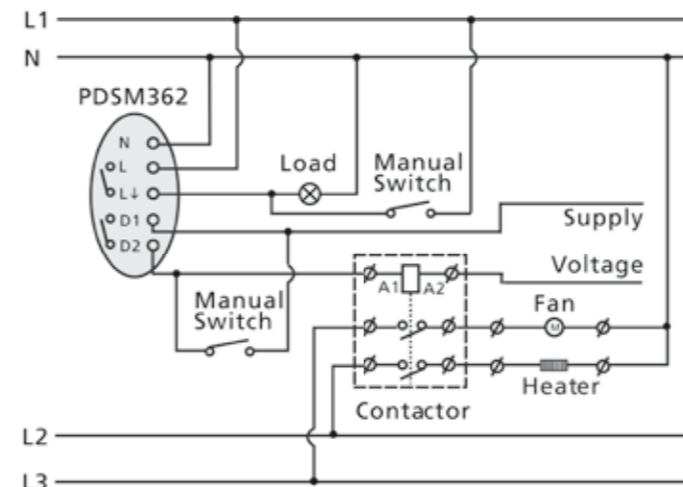

Fig. 3
3.2.1 Lighting and HVAC are controlled by one PDSM362 (see Fig. 3).